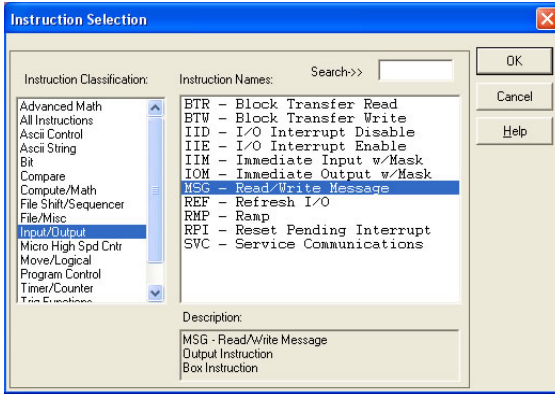

Figure 113: MSG Instruction Selection
- d) Select the "MSG" instruction from the "Input/Output" classification, then click OK. Refer to Figure 113.